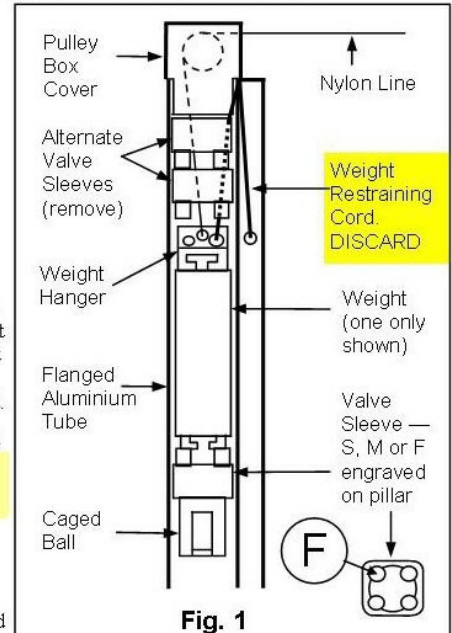

Fig. 1
- Mark and drill 3mm (1/8 inch) mounting holes on the face (not the end) of the trailing door stile (D) so that the top of the pulley box is within a few millimetres of the upper door track (E). Lift and turn it to face towards the latch (F) then screw the closer to the door.
- Locate an anchor point on the metal door jamb (or wall) such that the nylon line is close to horizontal but will not rub against the side of the exit hole in the pulley box. Ensure that the screw, once inserted, will not prevent the door from closing fully. Also ensure that there will be at least 5mm clearance around the head of the screw to fit the anchor lug (G). Drill and partially insert a screw.
- Gently** lower the weights to the bottom of the tube. Thread the nylon line firstly through the slot in the end of the anchor lug cap (G) then through the slotted post of the anchor lug (H) (see Fig 1). Pull on the nylon line to lift the weight assembly 50 - 75mm off the bottom of the tube. Holding the line in this position check that the door opens fully without the top of the weights impact-ing the pulley box. If necessary, fit a stop to the upper or lower door track to limit door travel.
The Inventco Automatic Sliding Door Closer incorporates one or more plastic covered steel weights operating in water (see Fig 1). A ball operated valve attached to the bottom weight limits door closing speed to reduce closing impact. Also the valve is fitted with an exchangeable outer sleeve of which there are three alternate sizes to enable closing speed to be increased or decreased. The mid-sized sleeve is fitted to the valve at the factory. The other two are located above the weights.
Now remove the valve from the lower weight by sliding it sideways. Remove the speed adjusting sleeve from the valve and replace it with the S sleeve to reduce closing speed or the F sleeve (see Fig 1) to increase speed. Reinsert the weights into the closer and re-test for speed. Should the S sleeve be fitted and the speed still be too high, a weight may be removed and the process repeated. However speed cannot be reduced below that obtained with the combination of just one weight and the S sleeve. If the F sleeve was fitted and the speed is still too slow or hesitant, the quality and condition of the rollers and tracks should first be checked before adding a weight. As mentioned in Helpful Hint No. 2 above, check also that there is no rubbing of the door against the sides of the top track and that the width of the groove in the rollers is greater than the width of the rail. The groove should be wider.